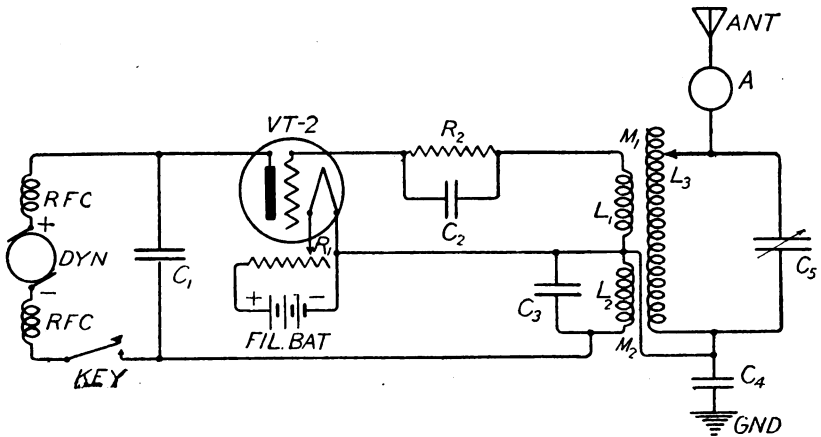

FIG. 5.
15. **Transmitter.**—The transmitting circuit shown in simplified form in figure 5 is a modification of one of the fundamental oscillation circuits. The antenna circuit consisting of the antenna, the inductance L_3 shunted by small variable air condenser C_5 , the condenser C_4 , and the ground is the circuit which determines the frequency of oscillations of the set. In the valve circuits proper the inductance L_1 is the grid coil and serves as a reactance or feed-back coil, being coupled